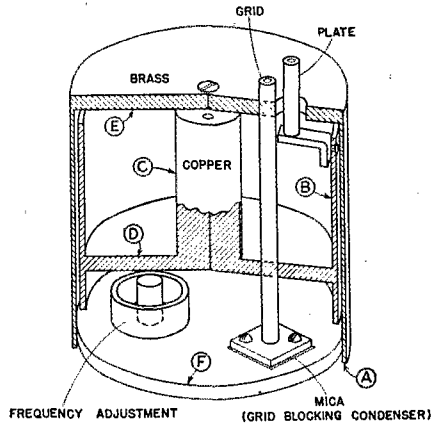

Fig. 1 — Sectional view of the tank circuit.
The basic type of tank circuit used in the oscillators to be described here is shown in section in Fig. 1. This tank circuit is cylindrically symmetrical about the center-line axis and consists
- L1-C — Tank circuit shown in Fig. 1.
- L2 — Grid rod shown in Fig. 1.